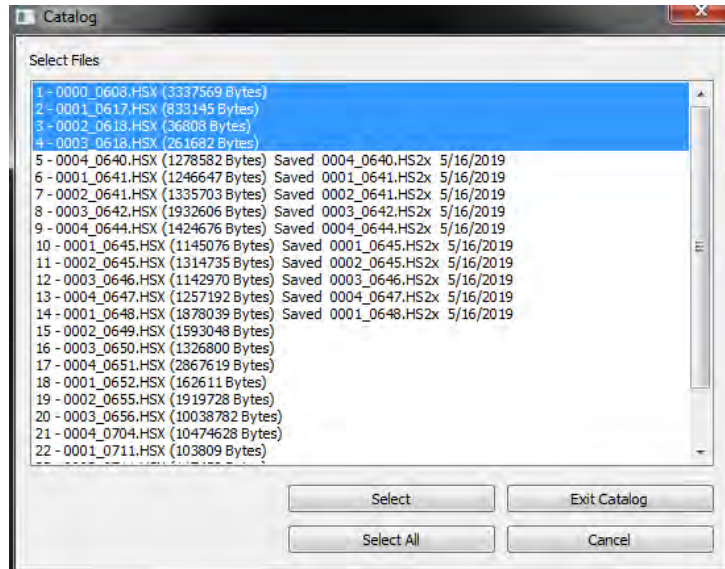

Figure 56: Determination and loading of the logged lines in MBMAX64
- ⇒ Select the files (logged lines) that you want to import on HySWEEP (CTRL + right click) (Figure 56)